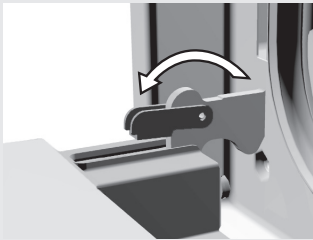

figure 1
- Fully open the oven door and rotate the stoppers all the way back - applies to conventional door closing (Figure 1).